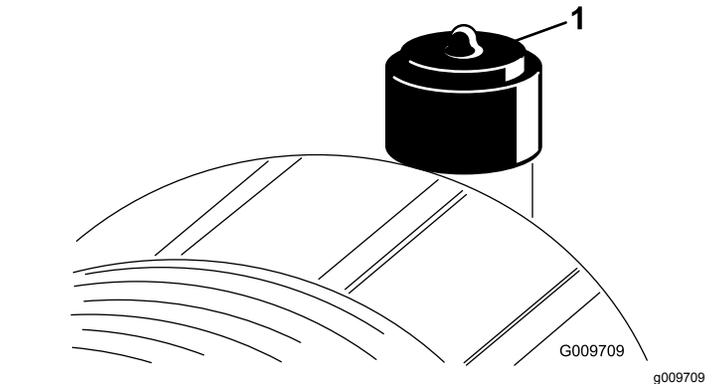

Figure 64
Service the air-cleaner filter only when the service indicator (Figure 64) requires it. Changing the air filter before it is necessary only increases the chance of dirt entering the engine when you remove the filter.
2. Reset the indicator (Figure 64) if it shows red.